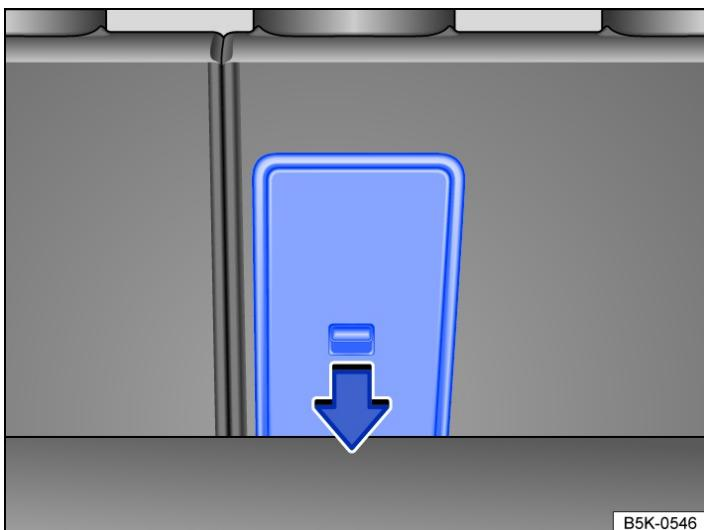

Fig. 2 In the luggage compartment: opening the load-through hatch.
- OR: opening the load-through hatch from the luggage compartment: push the release lever down in the direction of the arrow → *Fig. 2* and push the cover of the load-through hatch forward.